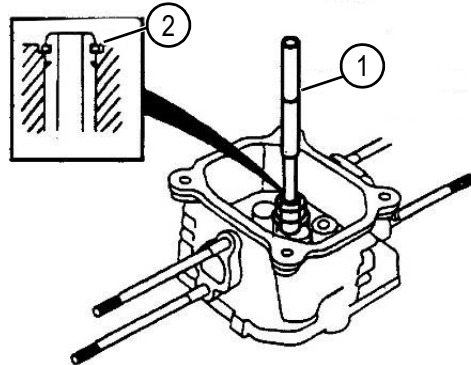

Figure 4-21: Exhaust Guide Fully Installed
6. See Figure 4-21. Use the valve guide driver and install the **new** valve guide from the valve spring side of the cylinder head until the clip is fully seated as shown.